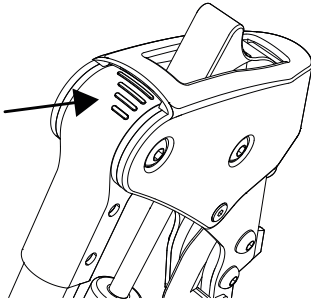

fig.54
3. The grid lines can be used as an orientation for the set angle (fig. 54).